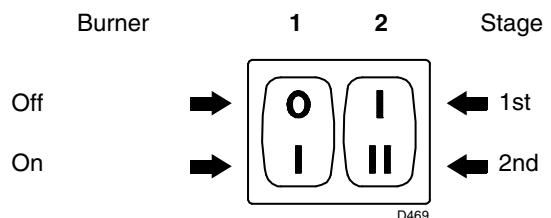
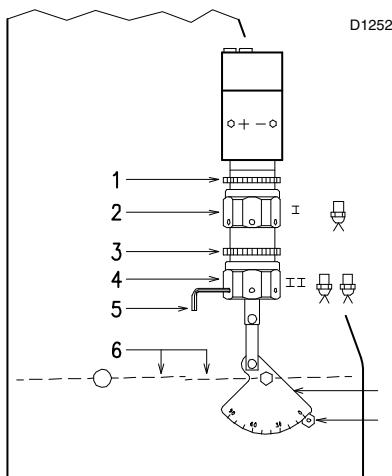

Fig. 20
Fig. 21
- Start the burner by closing the control devices and with switch 1) (Fig. 20 pag. 18) in the "ON" position. The pump must rotate in the direction of the arrow marked on the cover.
- The pump can be considered to be primed when the light oil starts coming out of the screw 3). Stop the burner: switch 1) (Fig. 20 pag. 18) set to "OFF" and tighten the screw 3).
Set switch 1) (Fig. 20) to "ON".
Keep the burner operating at 1st stage by setting the switch 2) (Fig. 20) to the 1st stage position. Opening of the air gate valves 6) (Fig. 21) must be adjusted in proportion to the selected nozzle: the index 8) (Fig. 21) must be aligned with the notch indicated on the graduated sector 7) (Fig. 21). This adjustment is achieved by turning the hex element 2) (Fig. 21):
Set switch 2) (Fig. 20 pag. 18) to the 2nd stage position and adjust the air gate valve 6) (Fig. 21) by turning the hex element 4) (Fig. 21), after having loosened the ring nut 3) (Fig. 21).
**in order to facilitate adjustment of hex elements 2) and 4) (Fig. 21), use a 3 mm Allen key 5) (Fig. 21).**